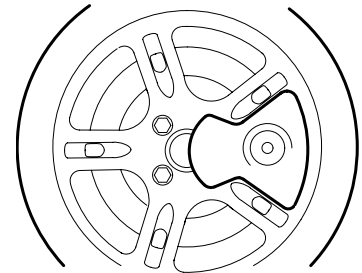

Fig. 10
- The Al-Ko Secure is now fitted. (Fig. 10)